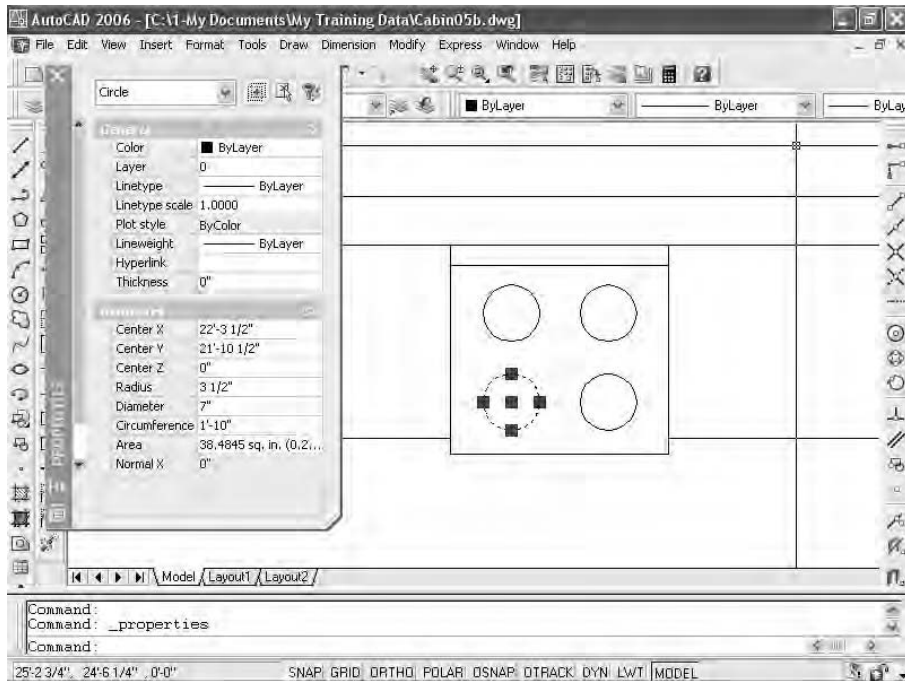

FIGURE 5.22: The Properties palette and the selected burner
6. Click the Properties button near the right end of the Standard toolbar to open the Properties palette. It will fill most of the left part of the screen (see Figure 5.22), and you can readjust its size and position. Notice the drop-down list at the top of the Properties palette. This tells you that the currently selected object is a circle.